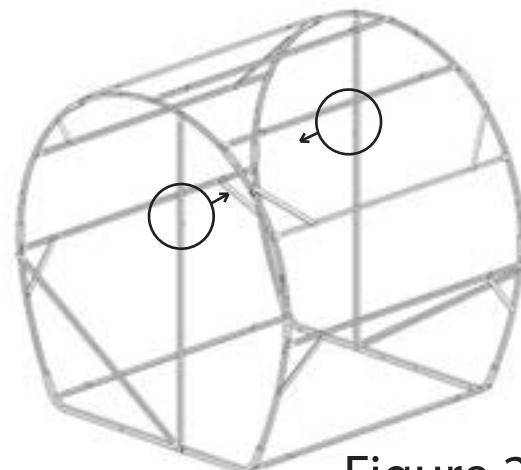

Figure 23.1
STEP 15: Repeat Step 14 to create the support system for the opposing end hoop, with the exception that there will not be a Wing Nut used in this step, only (3) Nuts, resulting in the frame illustrated in Figure 23.1.